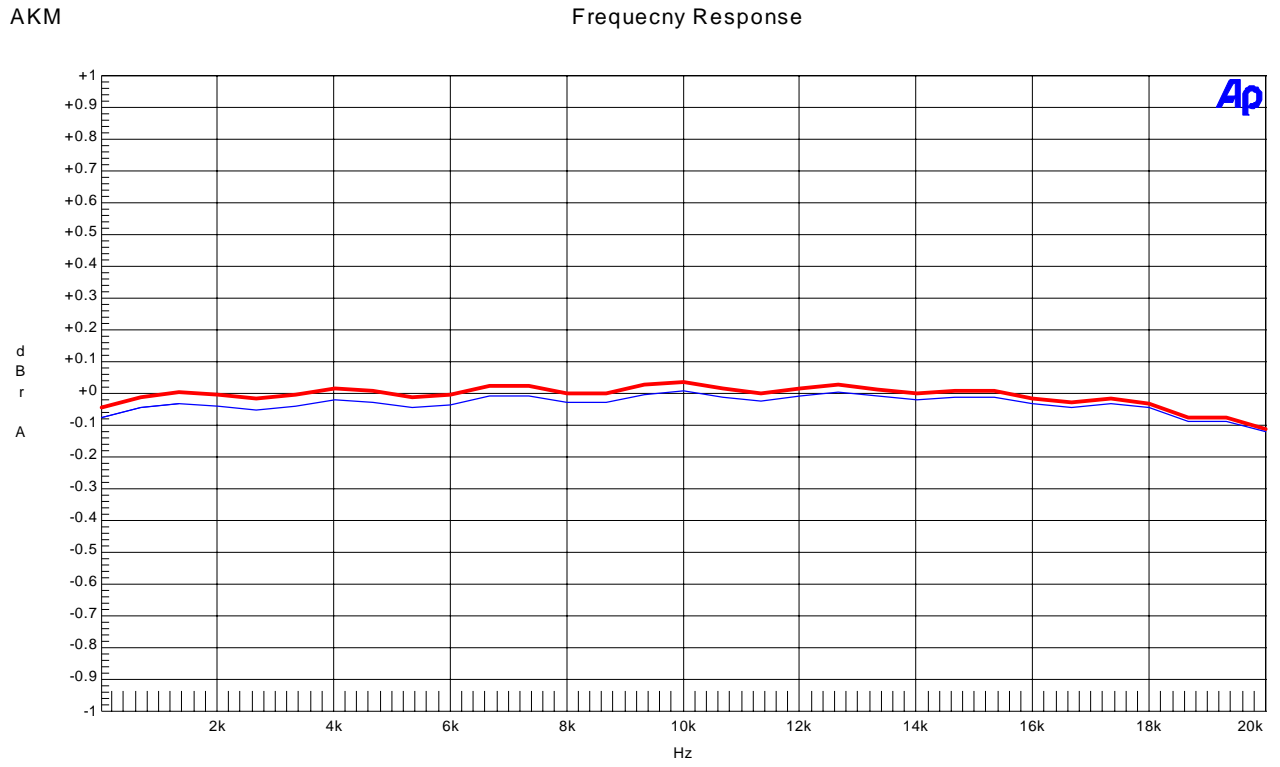

Figure 9. Frequency Response (Input Level=0dBFS)
- Figure 9. Frequency Response (Input Level=0dBFS)